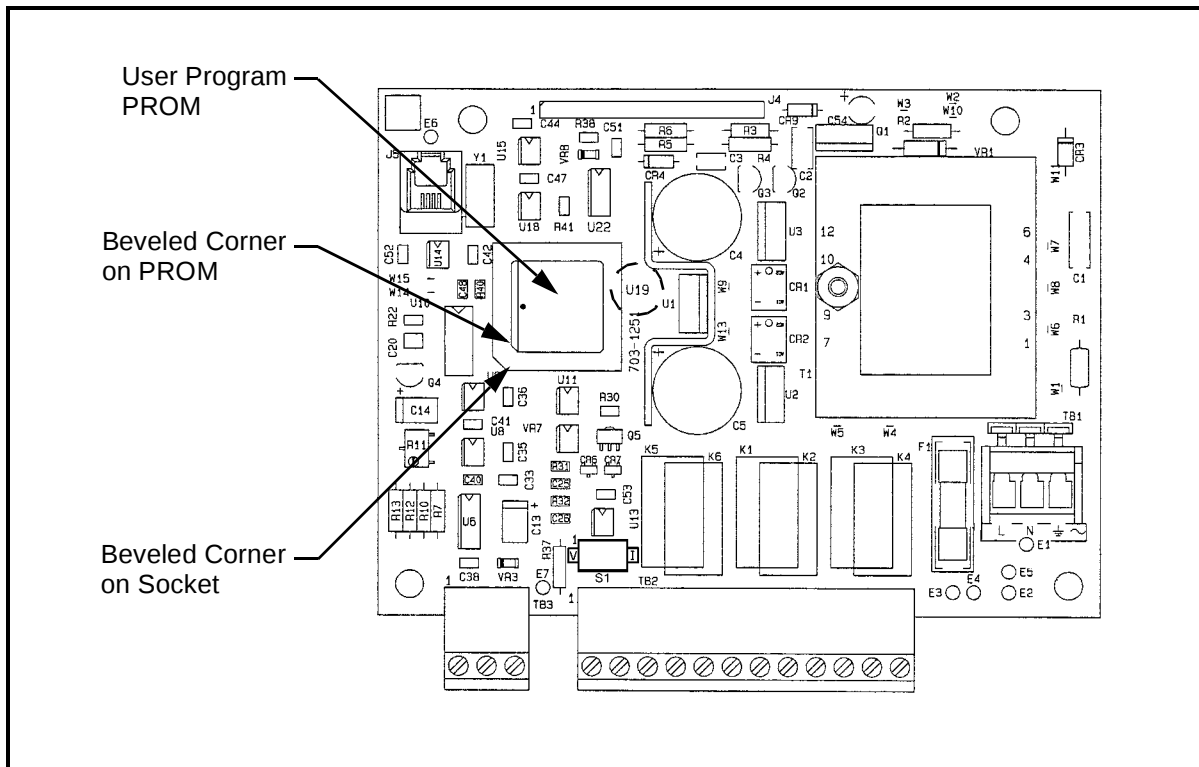

Figure 4-1: PROM Location and Orientation
1. Refer to Figure 4-1 on page 4-5 to locate the PROM chip on the main PC board. The PROM chip socket is labeled as U19.
3. Place the new PROM chip in the socket labeled U19, making sure that the beveled corner on the PROM chip matches the beveled corner on the socket (see Figure 4-1 on page 4-5).